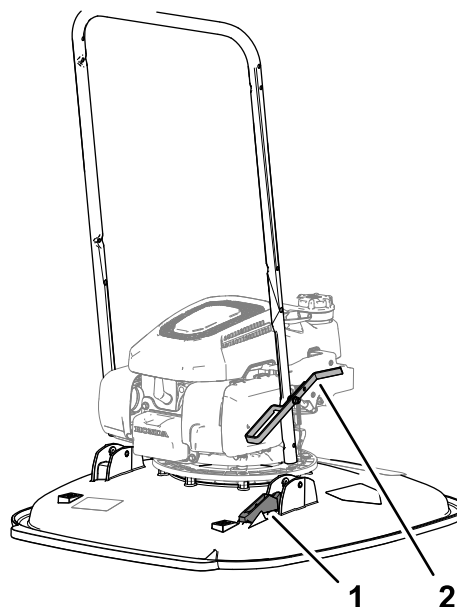

Figure 6
2. Align the footstop of the handlebar to the up-stop bracket on the deck (Figure 6).